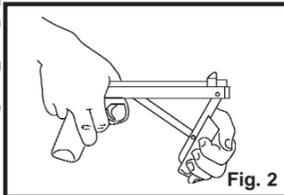

Fig. 2
- Open the forearm all the way until it stops (Fig. 2). Be sure to hold the forearm firmly as you open it. It could spring back into the closed
position, possibly causing injury. Place your hands in the same positions shown in Fig. 2 in order to avoid being pinched, should you lose hold of the forearm. Do not twist the forearm while pumping. Use straight strokes to prevent breakage.